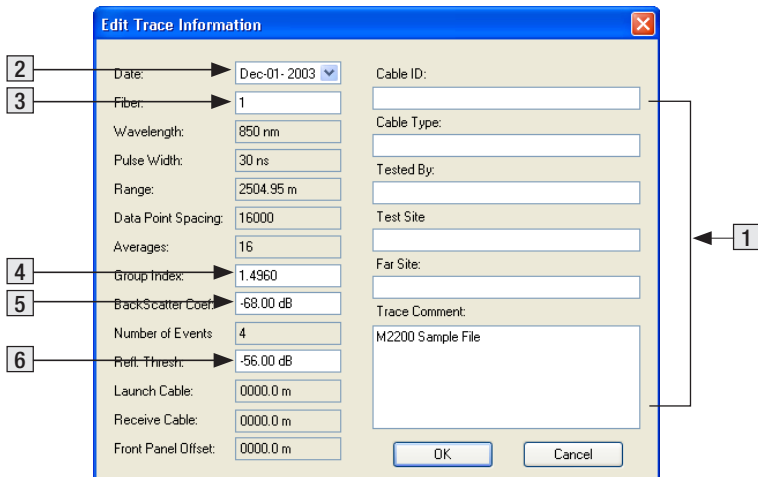

Figure 5-2: Edit Trace Information Dialog Box.
4. Refer to the following description and Figure 5-2 for details.